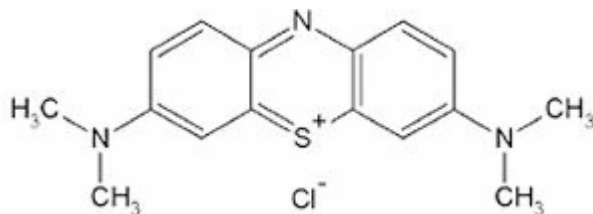

Figure 1. Methylene blue
- Organic chemical (Methylene blue – See Figure 1)